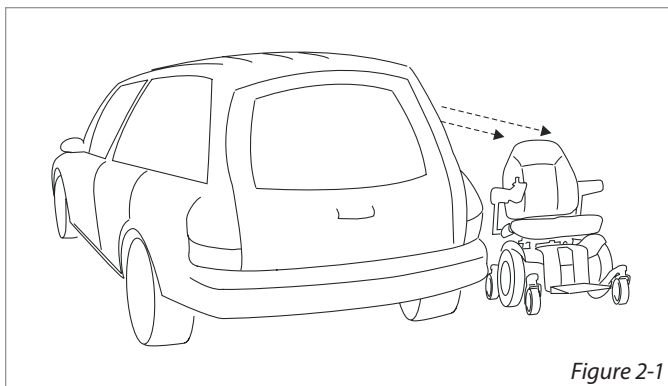

Figure 2-1
1. **Park power chair or scooter ready to be picked-up** along the side and parallel to the vehicle. *[Figure 2-1]*